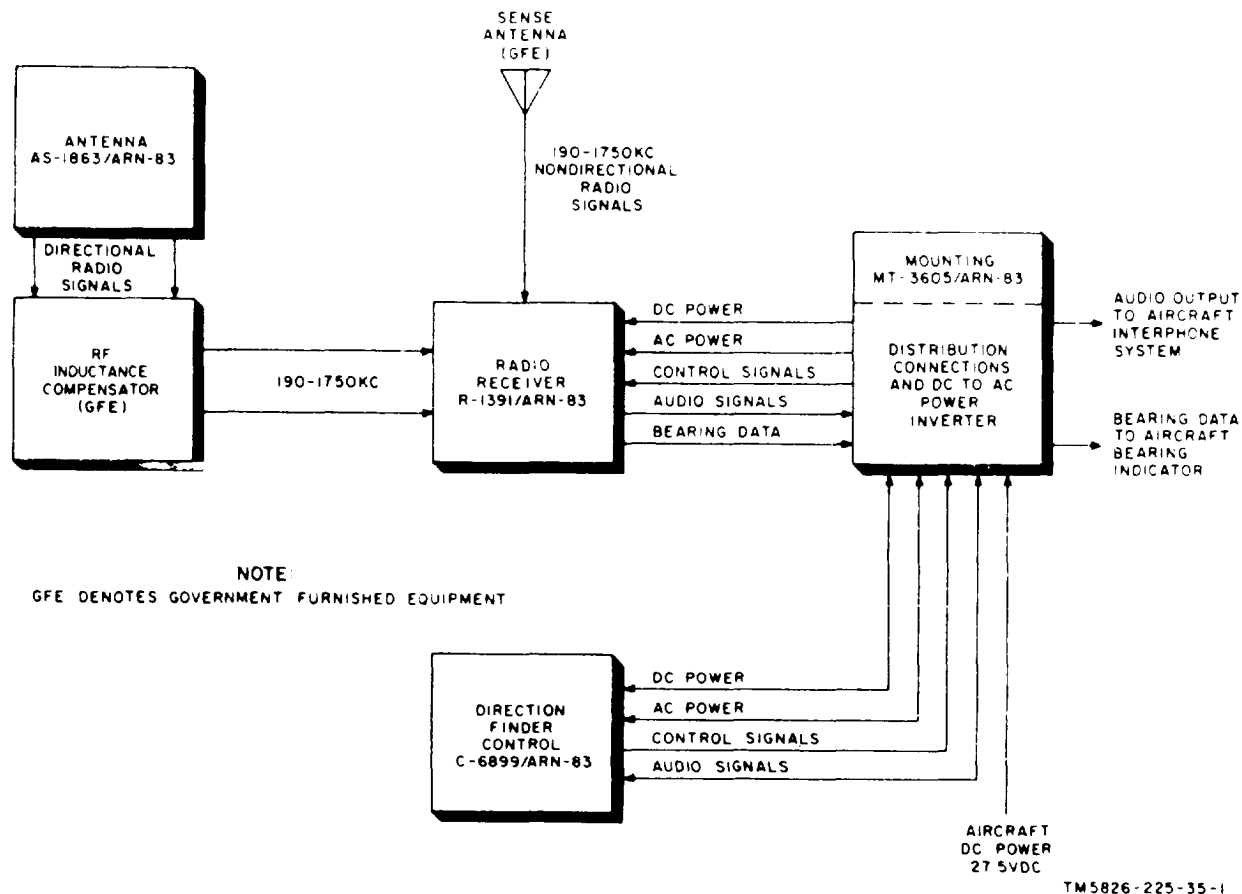

Figure 1-1. Direction Finder Set AN/ARN-83, system block diagram.
u. Direction Finder Set AN/ARN-83 includes the components shown in figure 1-1. The general direction of ac power, dc power, and signal flow is also shown. Antenna AS-1863/ARN-83 (fixed loop antenna) contains two pairs of loop antennas displaced 90 degrees. One pair of loops is sensitive to radio signals parallel to the aircraft longitudinal axis, and the other pair of loops is sensitive to signals parallel to the aircraft lateral axis. The two-loop output signals are applied to Radio Receiver R-1391/ARN-83 through an RF inductance